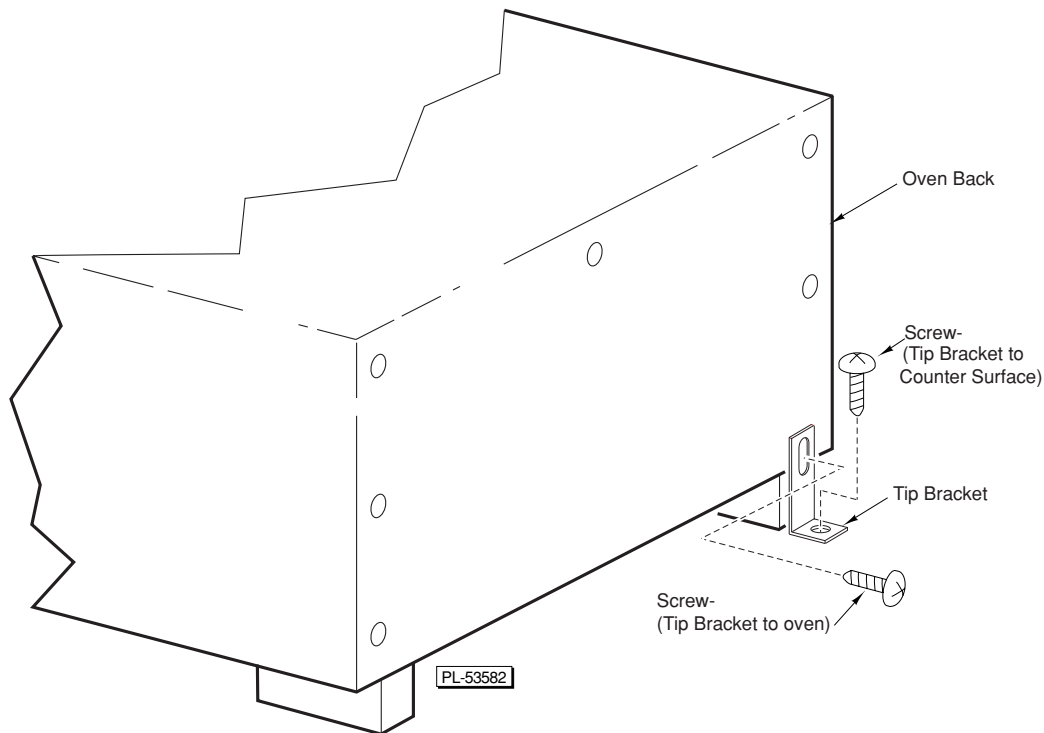

Fig. 1
- As you are looking at the back of the oven, position the tip bracket on the bottom back right side of the oven (Fig. 1).